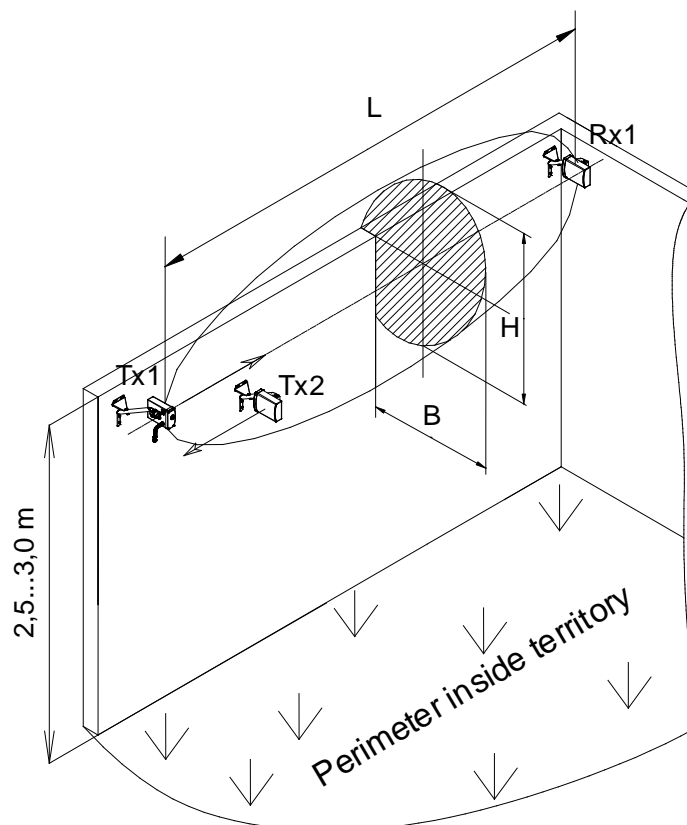

Figure 1.3 – The shape of the detection zone generated by the sensors BARRIER-M50, BARRIER-M100, BARRIER-M200 installed on the fence
1.2.3 The shape of the detection zone generated by the sensors BARRIER-M50, BARRIER-M100, BARRIER-M200 installed on the fence, maximum operational range of the sensors, maximum width of the sensors detection zone, maximum height of the sensors detection zone are given in Figure 1.3 and Table 1.4.